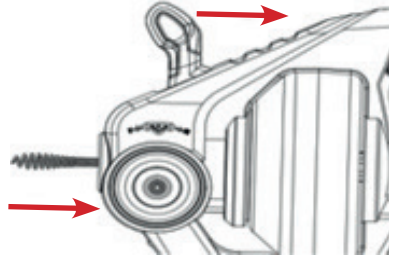

Fig.7
- The spiral shaft is led out at the front (Fig. 7).